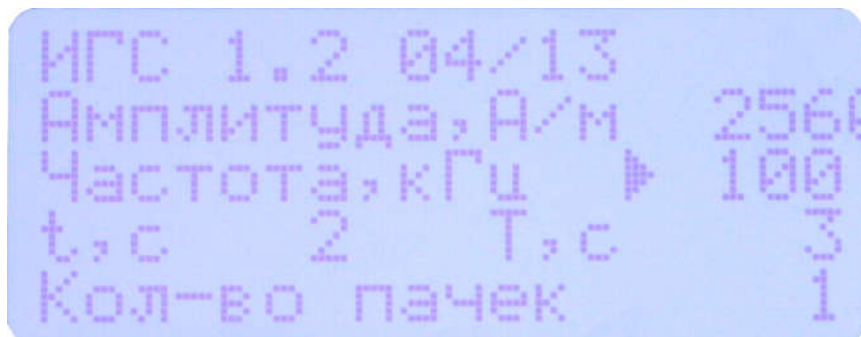

Figure 2
6.5 Connect the power cable to the socket on the rear panel and to the power outlet 220 V ; 50 Hz. Turn on the test generator by "POWER (СЕТЬ)" switch. The message shown in Figure 2 should be displayed. If the message "MISCONNECTION! (НЕПРАВИЛЬНОЕ ПОДКЛЮЧЕНИЕ!)" is displayed, turn off the generator and upturn the plug. If the same message is shown when you turn it on again, check the existence and integrity of the power ground.
7.2. After the generator is turned on, text and an arrow cursor appear in the top line of the screen (ref. Figure 2).